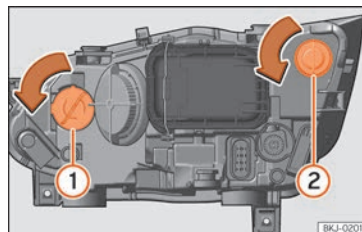

Fig. 57 In the engine compartment: turn signal light bulb ① and DRL (daytime running light) bulb ②.
- Turn the bulb holder » **Fig. 57** ① or ② to the left and pull.